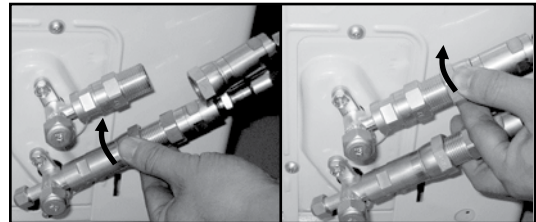

FIG. 6.3
3. Align the refrigerant pipes correctly so that they line up with the valves and are not stressed. The larger line will connect with the valve that has 2 caps. The thinner line will connect to the valve with one cap. Place the screw connector on the refrigerant line just on to the thread on the outdoor unit and tighten the first few threads by hand, Fig.6.3.